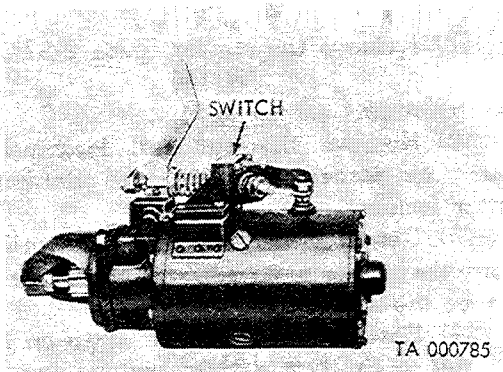

Figure 2-22. Starter (late type).
a. The starting system (fig. 2-4) includes the starter, starter switch, and battery-to-starter cable. Current is supplied by two 12-volt batteries. Engagement of the starter is effected by depressing the starter switch pedal (X, fig. 2-22).
2-27. Starter (fig. 2-22)